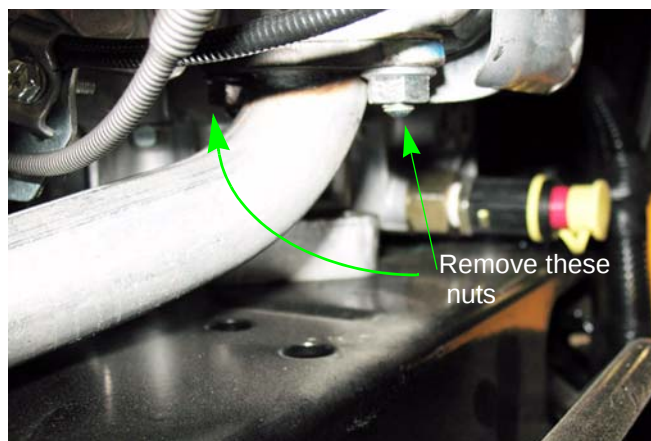

Figure 2.4
- Remove the two nuts that secure each exhaust pipe to the cylinder head. See Figure 2.4.